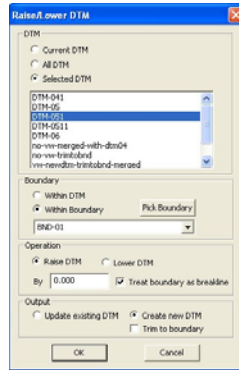

Figure 14-42. Raise/Lower DTM Dialog Box
Use the raise/lower DTM command to raise or lower a specified surface(s) vertically by a defined amount (Figure 14-42).
1. Click **Surface** ► **DTM Tools** ► **Raise/Lower DTM**. The *Raise/Lower DTM* dialog box displays (Figure 14-42).